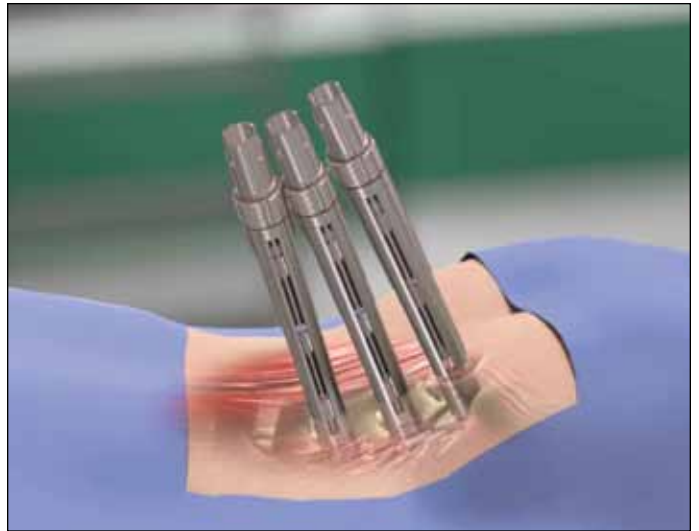

FIG. 21
- When placing subsequent screws, insert them to a depth comparable to the first screw. This simplifies rod insertion and set screw placement. This can be observed either on imaging or by observing the position of the proximal ends of the Screw Extensions. When the Screw Extension ends are aligned, the screw depths are well positioned. (Fig 21)